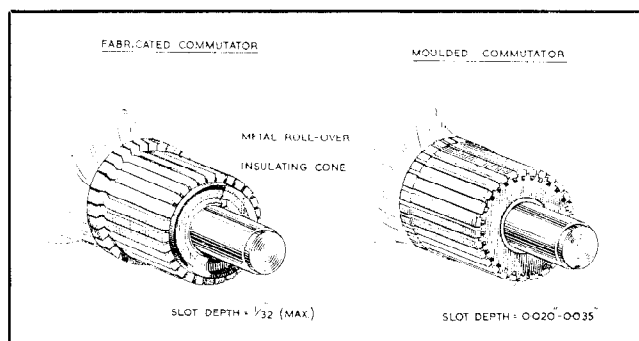

Fig. 5
- (i) A commutator in good condition will be smooth and free from pits and burned spots. Two types of commutator, the moulded and the fabricated, are being currently produced. Moulded commutators can be recognized by the exposed end being quite smooth, unlike that of the fabricated commutator from which a metal roll-over and an insulating cone protrude (see Fig. 5).